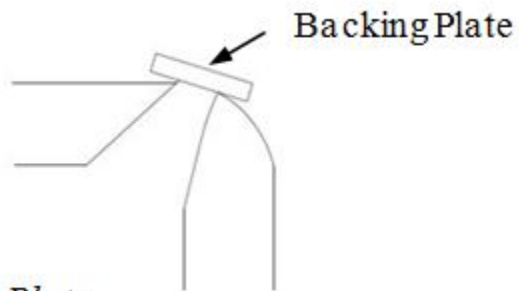

Figure 108H *Backing Plate*
3. Use a backing plate when clearance permits. (See Figure 108H)